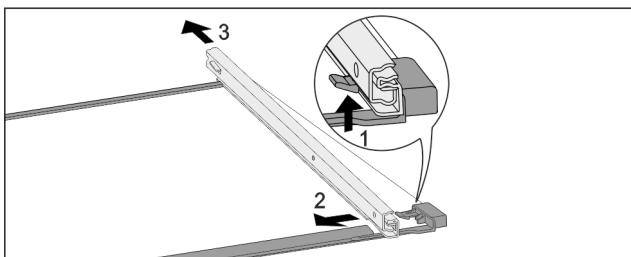

Fig. 166 Glass shelf with rails
- ▶ Push up front click-in hooks. Fig. 166 (1)
- ▶ Slide pull-out rails to the side Fig. 166 (2) and backwards Fig. 166 (3).